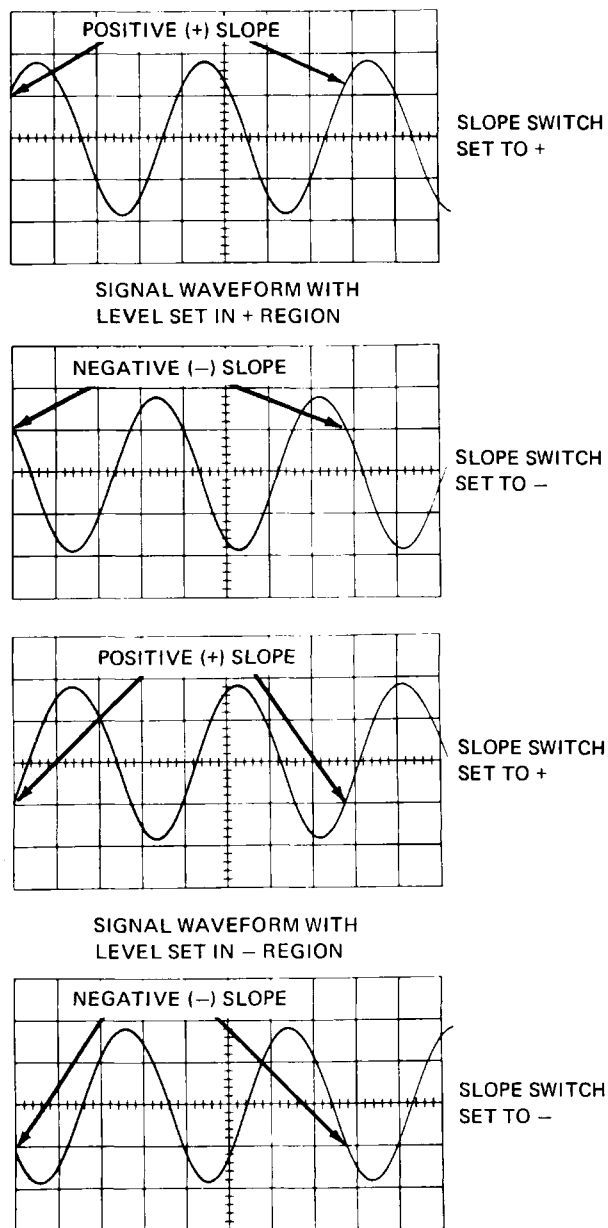

Figure 2-3 Trigger Slope and Level Selection
(1) **Trigger Level** The LEVEL control determines the trigger signal amplitude which will trigger the sweep. When the LEVEL control is set to a point in the + portion of the range, the sweep will be triggered at a more positive point on the trigger signal. When set in the - portion of the range, the sweep will trigger on a more negative point (see Figure 2-3).